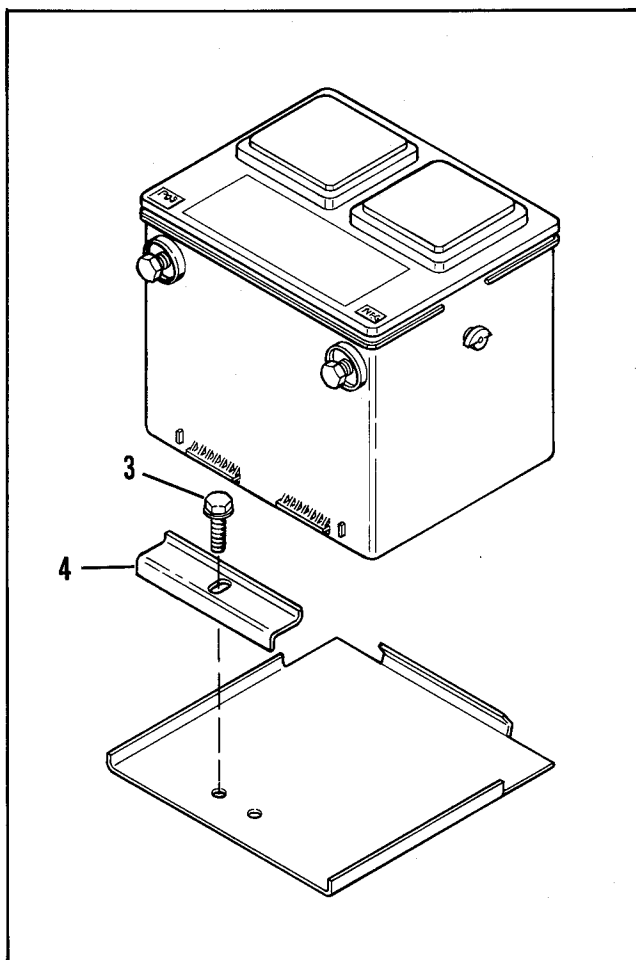

Figure 10-21 – Battery Removal
Removal (Figure 10-21)
- a. Thread a 3/8-16 bolt into each terminal, hand tight, Figure 10-21.